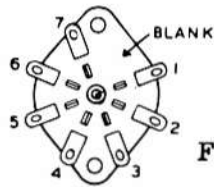

Figure 1
(X) Mount the two 7-pin and one 9-pin wafer type tube sockets on the chassis with 3-48 screws and nuts. See Figures 1 and 2 for identification. Note the position of the blank spaces in Pictorial 1 on Page 6. Observe that the sockets mount below the chassis.